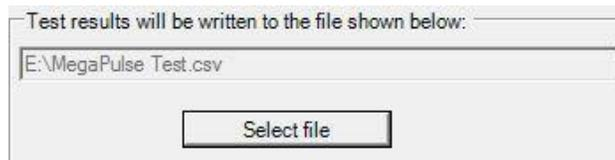

Figure 29 Test file setup box
2. The MegaPulse may be run in manual mode from the computer. To conduct a manual test, first setup a name for a file to record the test results: at the lower right of the screen (Figure 29): click the “Select file” button to show the “Open File” dialog box, then select a file name and suffix. “.txt” files can be opened by the windows text editor, “.csv” files can be imported into Microsoft Excel if desired. After the file is selected, the text box will show the file location.